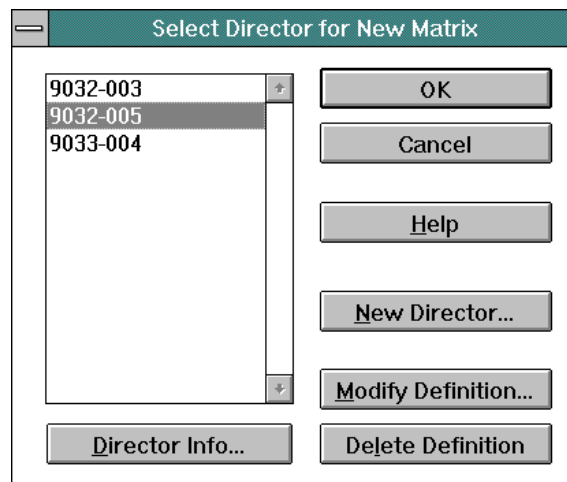

Figure 145. *Select Director for New Matrix* Dialog Box
2. Select the *New Configuration Matrix* option from the *File* menu. The *Select Director for New Matrix* dialog box appears (Figure 145). The dialog box contains a list of all configured Directors supported by the Console.